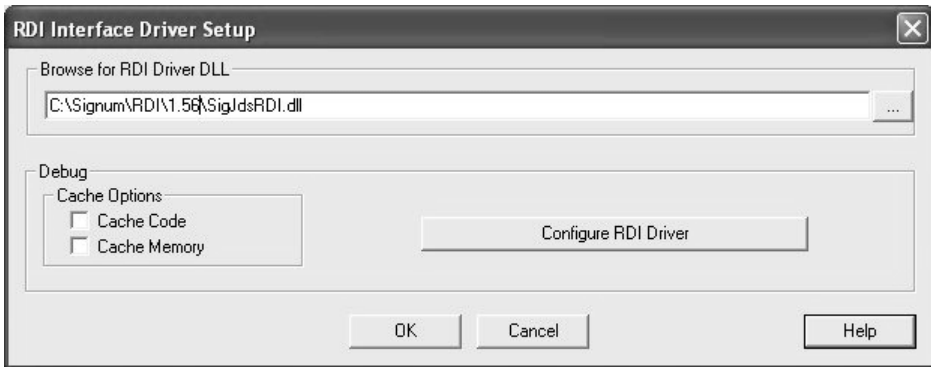

FIGURE 17 Selecting the RDI driver DLL file for uVision3.
2. Press the Settings button. In the RDI Interface Driver Setup dialog box, navigate to the SigJdsRDI.dll file in the C:\Signum\RDI directory, (Figure 17).
column, click on the device you want to debug. Note that you cannot select a bypass device (see Figure 17):